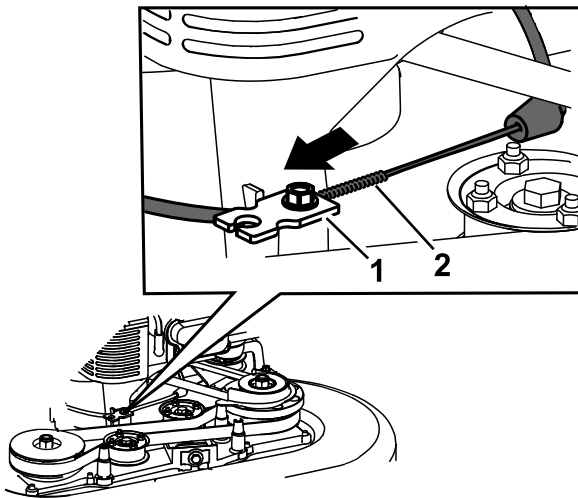

Figure 15
9. Pull the cable jacket to remove slack (**Figure 15**).